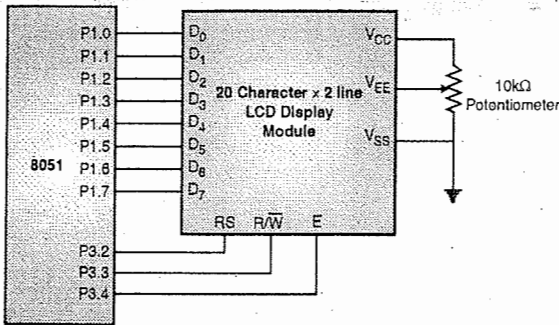

Fig. P. 2.7.3 : Interfacing 8051 to LCD module
Fig. P. 2.7.3 shows the interfacing diagram.
- Fig. P. 2.7.3 shows the interfacing of a 20 character x 2 line LCD module with 8051. As shown in Fig. P. 2.7.3 the data lines are connected to Port 1 of 8051. The control lines RS,  $R/\overline{W}$  are driven by Port 3 pins P3.2, P3.3 and P3.4. The voltage at  $V_{EE}$  pin is adjusted by potentiometer to adjust the contrast of the LCD.